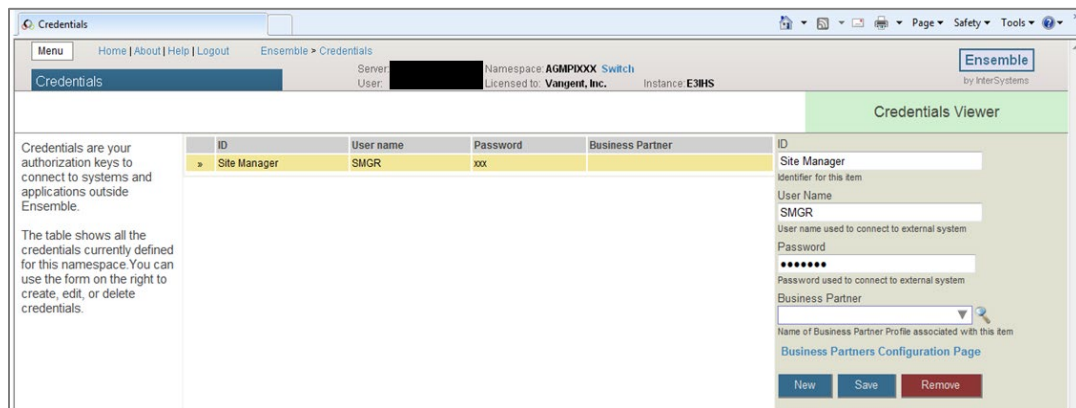

Figure 5-30: Newly created credential in the **Credentials** page
6. Click **Save**. The top pane will display the newly created ID and username, as shown in Figure 5-30.